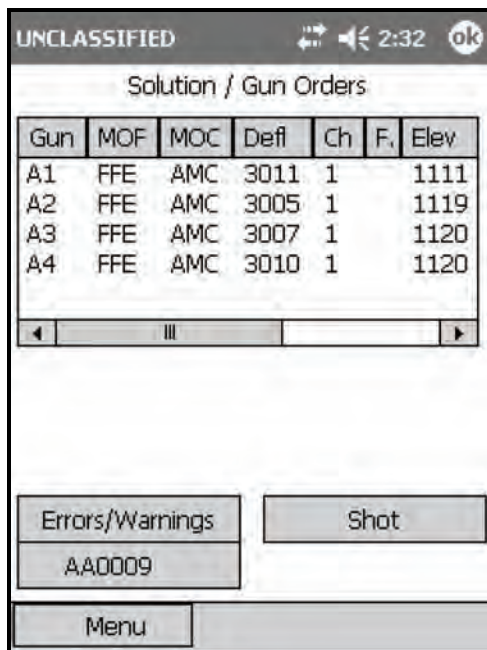

Figure 18-65. Final Protective Fire: section solution.
- (54) Select Use All.
- (55) The Mission Data screen displays.
- (56) Select Use All.
- (57) The Solution/Gun Orders screen displays (Figure 18-65).
- (58) Record the solution/safety data on DA Form 2399-R.
- (59) Select the <Target> button.
(60) The <Target> screen displays.